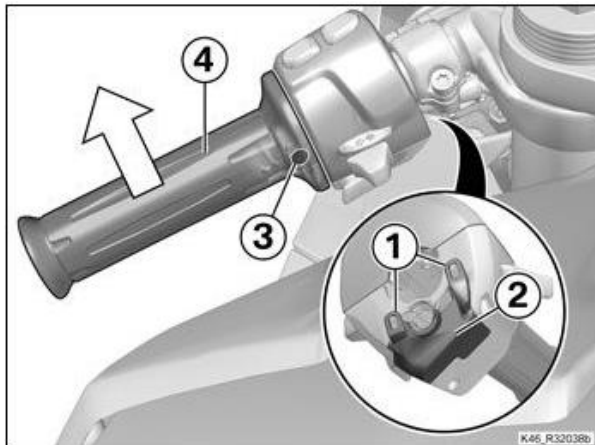

Fig. 1
- Loosen the two safety bars (1) and remove the cover (2)
- Remove the screw (3) and turn the handle unit forwards (4) (Figure 1)